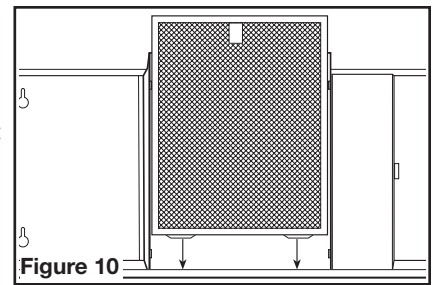

Figure 10
1. Install the filter by fitting the filter into the channel on the hood and sliding it back until it stops against the back of the hood (Figure 10).